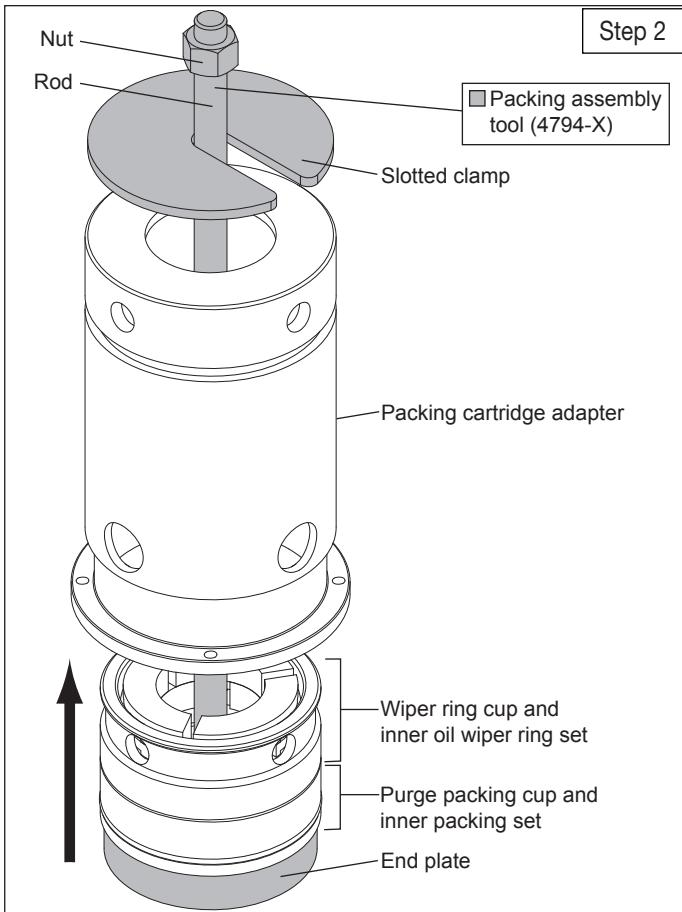

Figure 5.6D : Packing assembly
- c. Orient the packing cartridge adapter so that the open end (cylinder side) faces down. Being careful not to dislodge the inner packing set previously placed on the end plate of the tool, position the packing cartridge adapter over the inner packing set and end plate of the tool so that the rod of the tool extends through the packing cartridge adapter. Place the slotted clamp above the packing cartridge adapter as shown in figure 5.6D.